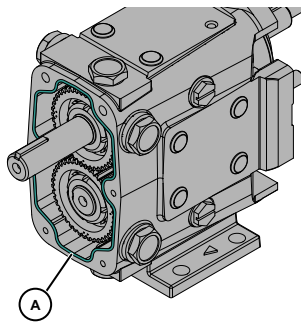

Figure 66 Sealant Placement
3. Apply silicone sealant to the back of the gear case. (Gore-Tex® sealing tape can be used on silicone-free models.) Place tape on the inside of the screw holes. (Figure 66, item A).